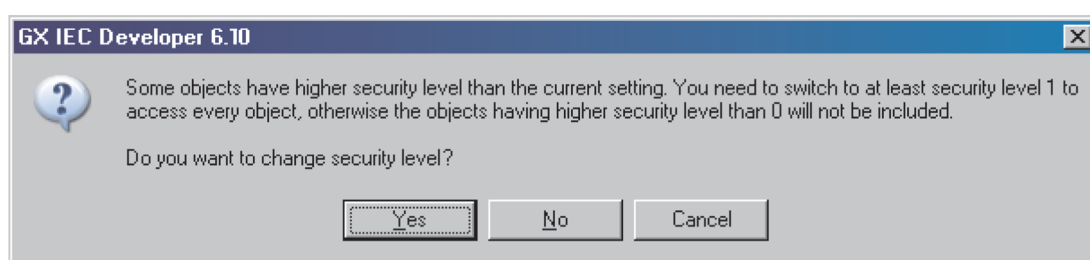

Fig. 4-22: *Security level warning*
- If the user chooses **No** in the message box shown in Fig. 4-22, the inaccessible objects will not be exported.
- Choosing **Cancel** in the message box shown in Fig. 4-22, the process using the export functionality will be canceled.
If the user decides to change the security level, but then cancels the **Change Security Level** dialog or sets a security level still not high enough to export every object, the message box shown in Fig. 4-22 will be displayed again, until the needed security level is set or **No** is chosen in this message box.